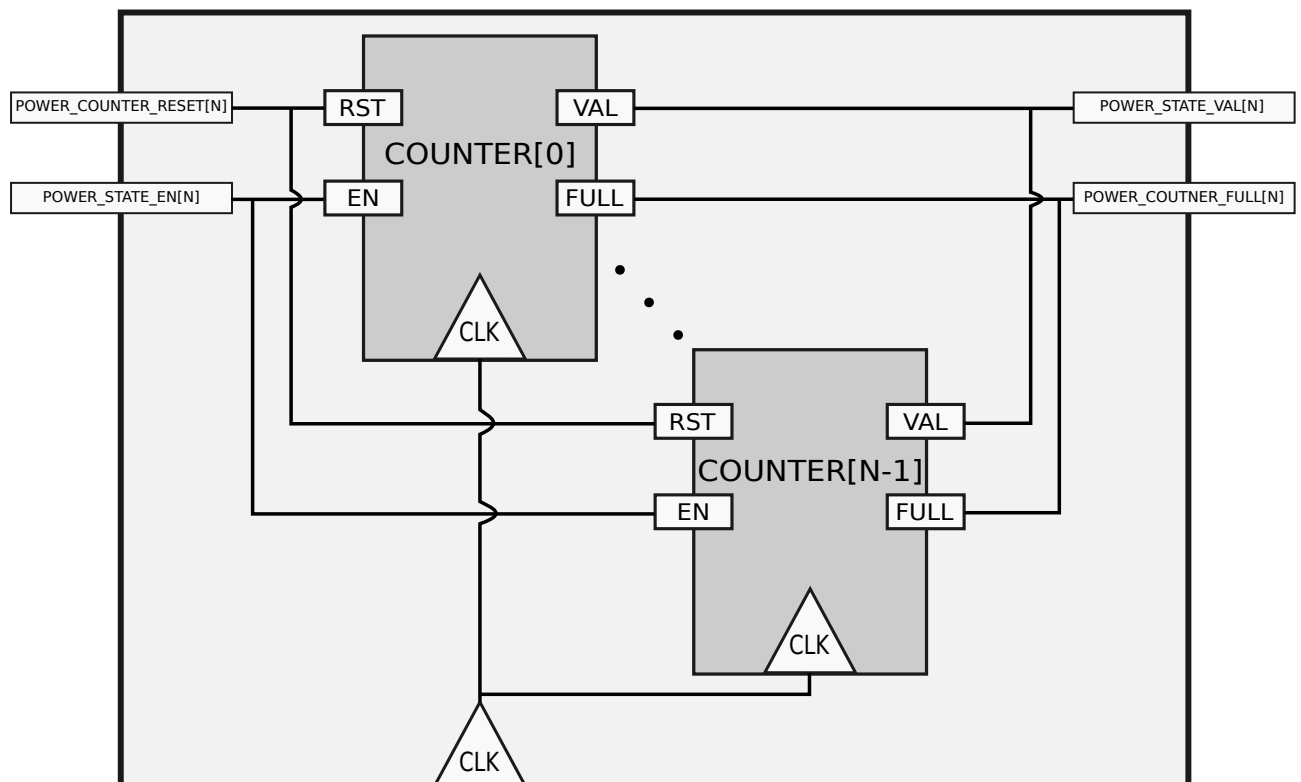

Figure 3.1: Power Approximator Architecture
Power Approximator (PA) (Figure 3.1) is used to calculate how many clock cycles each power state is enable. There are N counter, one for each state, that are instantiate automatically as shown below.